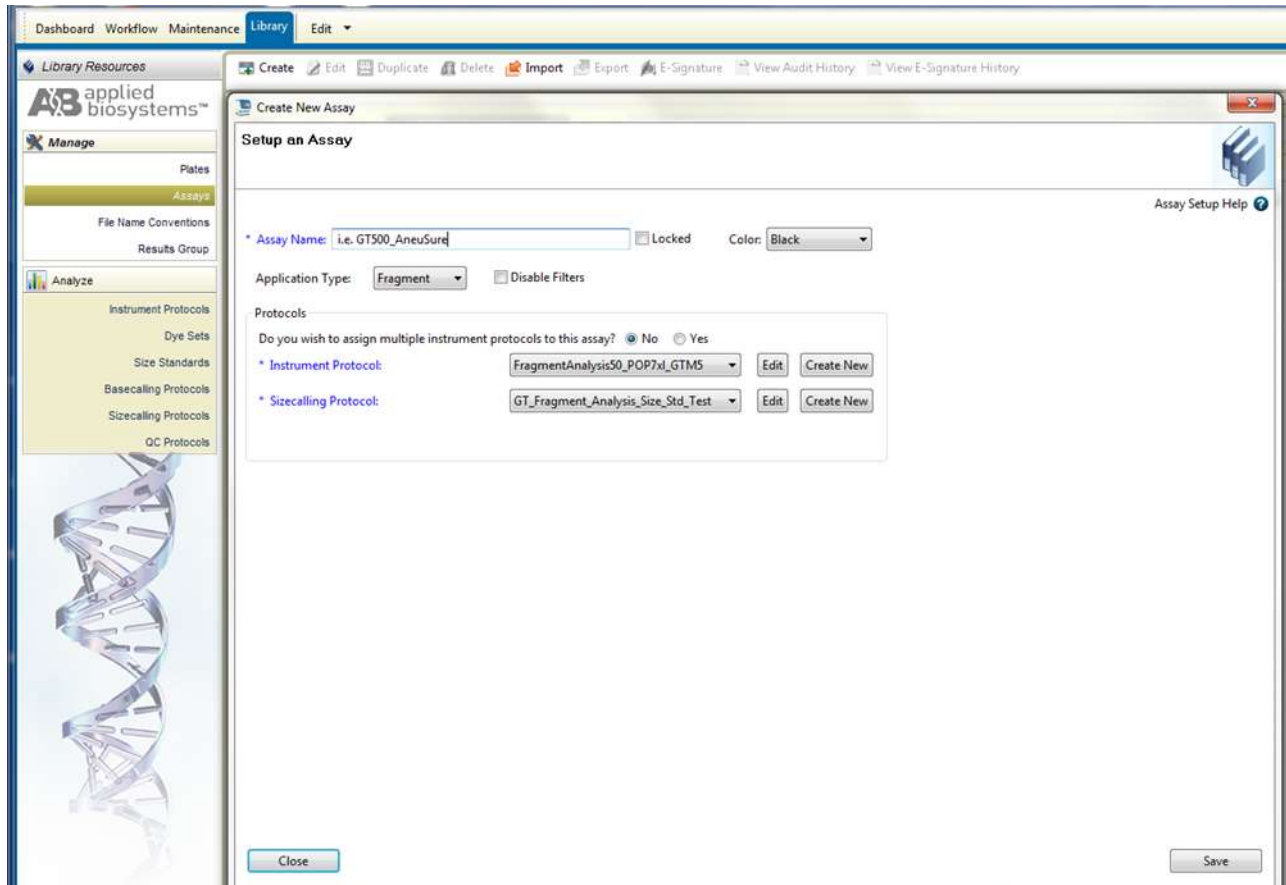

Figure 8. Screenshot for the “Create New Assay” window on Applied Biosystems 3500 Data Collection software
- c) select “Create” (Figure 8)
- d) in the *Create New Assay* window, as shown in Figure 8, choose the *Instrument Protocol* created in Step 3.1.1 and the *QC Protocol* created in Step 3.1.3